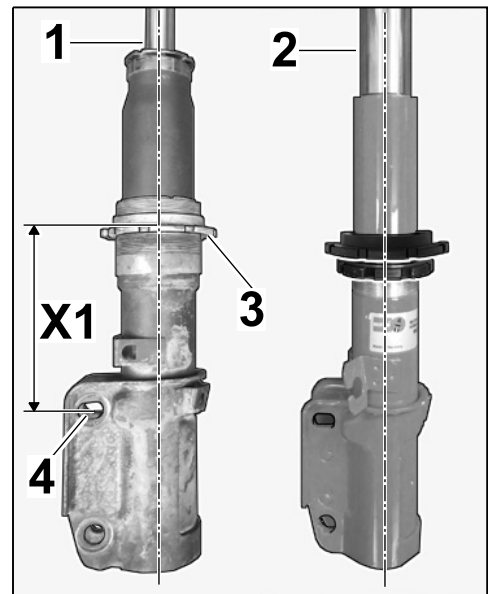

Figure 3
2.1 Measure dimension X1 (top of adjusting nut/mounting point for shock absorber ⇒ *Figure 3 -X1-*) on the standard spring strut.